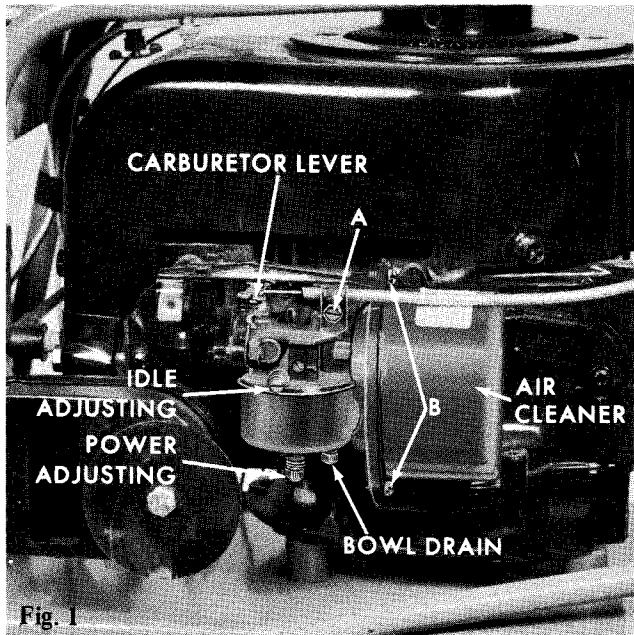

Fig. 1
1. Close power adjusting needle by turning to right (clockwise). Close finger tight only. Forcing will cause damage. (See Fig. 1)
3. Close idle adjusting needle by turning to right (clockwise). Close finger tight only. Forcing will cause damage. (See Fig. 1)
8. Allow several seconds between each adjustment when performing either step six (6) or seven (7) to allow engine to react to new setting.
- A) With engine shut off, loosen screw "A". (See Fig. 1)
- A) Loosen the two screws (B) holding air cleaner element to the carburetor (See Fig. 1).
Drain by pressing upward on bowl drain. (See Fig. 1).